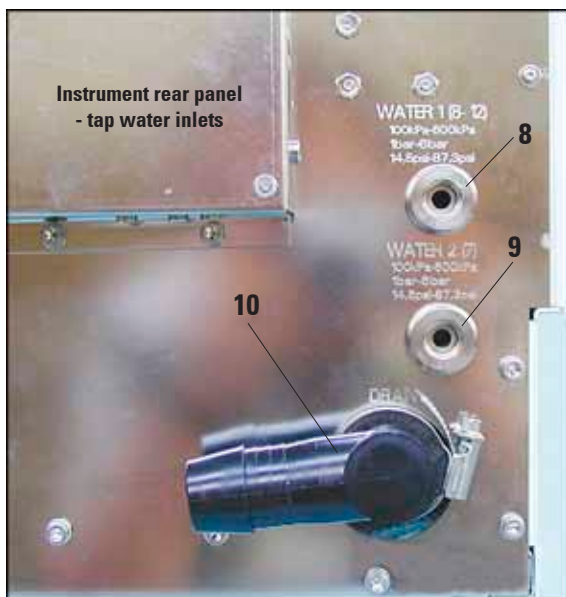

Fig. 7
- Screw tap water inlet hose (7 in Fig. 8) for tap water stations 8 - 12 onto water tap and insert the other end into inlet (8 in Fig. 7).